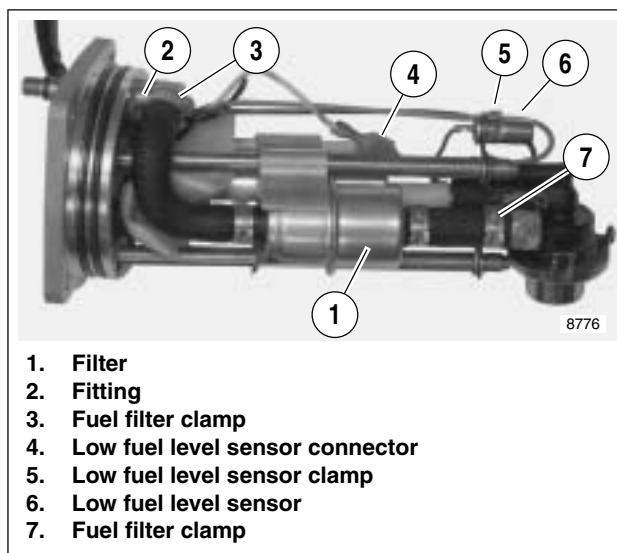

Figure 4-88. Fuel Pump Assembly (right side)
2. See Figure 4-88. Disconnect low fuel level sensor connector (4).
3. Remove clamp (5) securing low fuel level sensor (6) in place.
2. See Figure 4-88. Remove fuel pump clamps (3, 7).
6. See Figure 4-88. Remove fuel filter hose from fitting (2) and remove fuel filter (1).
8. Install **new** fuel filter hose with 90° bend towards fitting (2).
11. See Figure 4-88. Tighten fuel filter clamps (3, 7).
2. See Figure 4-88. Remove fuel filter clamp (3). Disconnect hose from fitting (2).
9. See Figure 4-88. Attach fuel filter hose to fitting (2) with clamp (3).
14. See Figure 4-88. Attach fuel filter hose to fitting (2) with clamp (3).